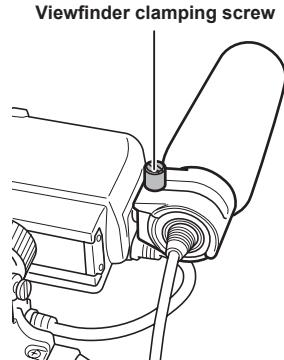

Fig. 2
**2** Mount the microphone and tighten the viewfinder clamping screw. (Fig. 2)